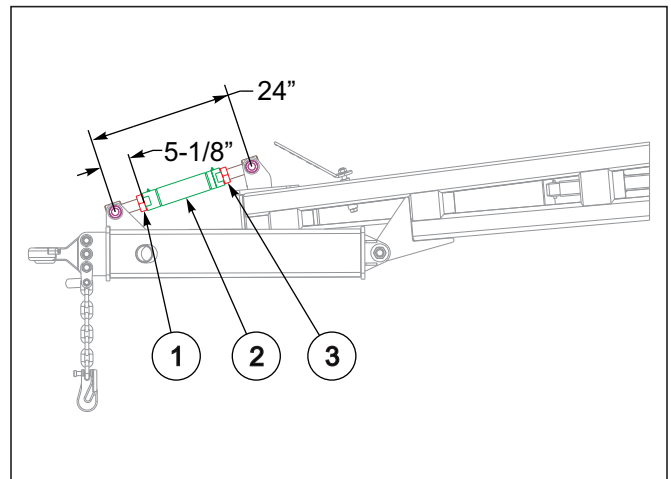

Figure 4-17: Hitch Leveler Adjustment
1. The radius rod assembly should be pre-set to 5-1/8" from center of front bolt to the front side of the radius rod tube weldment (2) and an overall length of 24" from center of bolts **See Figure 4-17.**
2. To adjust loosen the 1-3/4" jam nut (1) and 1-3/4" LH jam nut (3).
3. Adjust the radius rod tube weldment (2) to proper distance and re-tighten jam nuts.